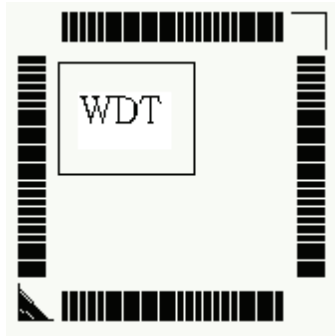

Figure 4-3: CPLD with WDTimer Function
2. Enable the WDTimer counter to count down through the function `_7260_INT_Control()`, this function allows WDT function in the CPLD (as Figure 4.3) starting to count down. After enabling the function, users must reload WDTimer by step (1) before it overflows. This makes PCI-7260 work normally under WDT monitoring. When it overflows, CPLD interrupt will occurs and emergency shutdown will be active too to make relay output in a safety pattern unless user disable the emergency shutdown function through function `_7260_EMG_SETUP()`.
external circuit. The maximum output current of the on board isolated power is 170mA (@40?). Please pay attention to the current consumption of the external circuit not exceeding the limit. The dry contact architecture is shown in Figure 4.3.